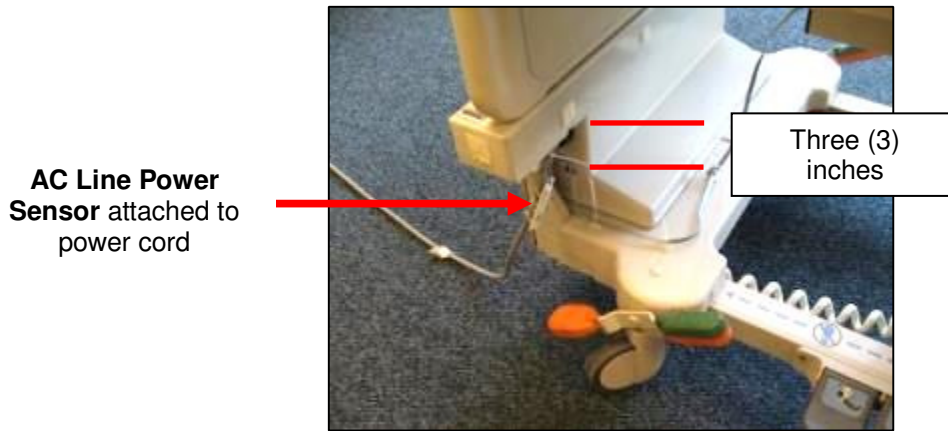

Figure 7. AC Line Power Sensor Attached to Power Cord
The **AC Line Power Sensor** (see Figure 7) is strapped to the bed's AC power cord approximately three (3) inches from the bed cord's power connector. The **AC Line Power Sensor** senses if the bed is connected to AC power, and will activate or deactivate the **Bed Beacon** accordingly. The **AC Line Power Sensor** is connected to the **Bed Beacon**. It mounts to bed's power cord with two (2) cable ties. Make sure a service loop is left in the **AC Line Power Sensor's** cable run, allowing the bed to be raised and lowered. **Note:** **Stretchers are installed without the AC Line Power Sensor because they don't have an AC power cord. In stretcher mode; the stretcher field is continuously on.**
Attach the **AC Line Power Sensor** to the patient bed's AC power cord using 2 cable ties (see Figure 7). Use cable tie holders for routing the wire to the **Bed Beacon**, and make sure the mounting surface is clean and free of dirt and oil. A soft cloth dampened with isopropyl alcohol works well to clean both surfaces.
1. Place cable tie holders and cable ties, then route cable to the **Bed Beacon** as shown (see Figure 7, 8 & 9). Make sure the mounting surfaces are clean and free of dirt and oil. A soft cloth dampened with isopropyl alcohol works well to clean the mounting surfaces. Avoid routing cables near the bed's patient fall detect sensor IR beam path.